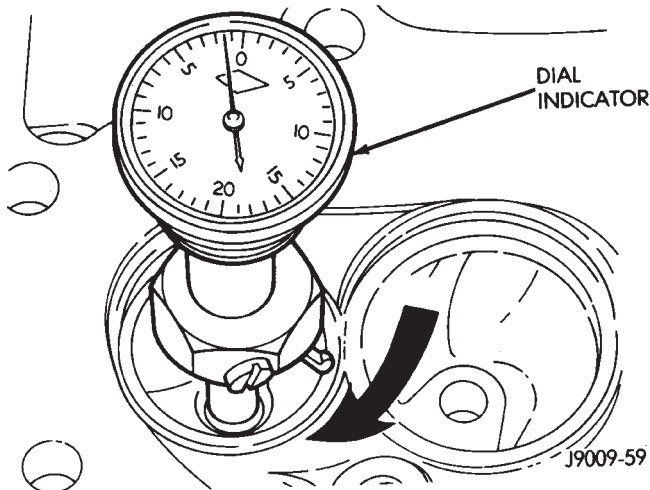

Fig. 7 Measurement of Valve Seat Runout
(2) Use tapered stones to obtain the specified seat width when required.
(3) Control valve seat runout to a maximum of 0.0635 mm (0.0025 in.)—(Fig. 7).